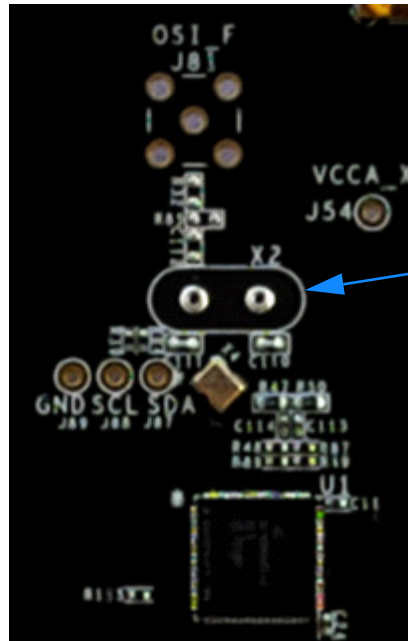
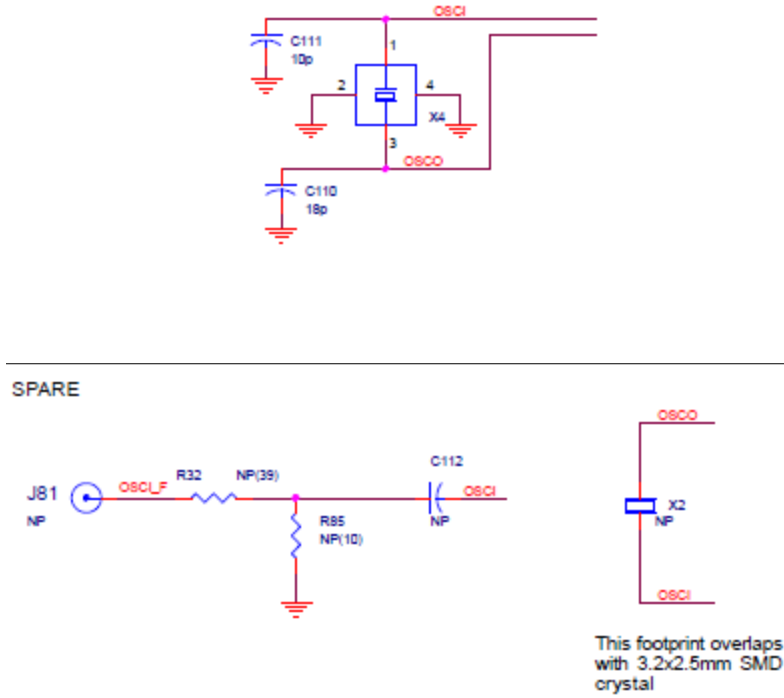

Figure 2. Crystal Interface PCB
Figure 6. Crystal Interface Schematic
- b. Place a crystal into the crystal socket X2 (see Figure 2 for location of the component).
2. **Crystal overdrive.** With this option, the device can be evaluated with different sources, such as frequency generators, XOs, or other devices. For identification of the components mentioned, see Figure 2 and Figure 6.